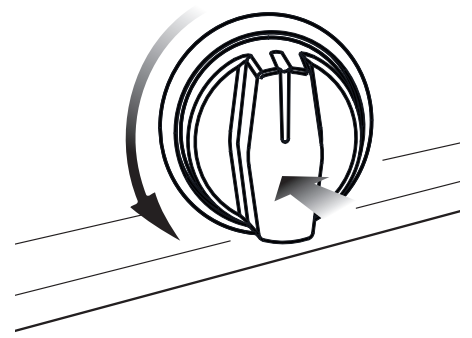

Fig. 3.4
2) Press the oven control knob right down and turn counter-clockwise (fig. 3.4) to the max position (**555** for the left oven and **585** for the right small oven).